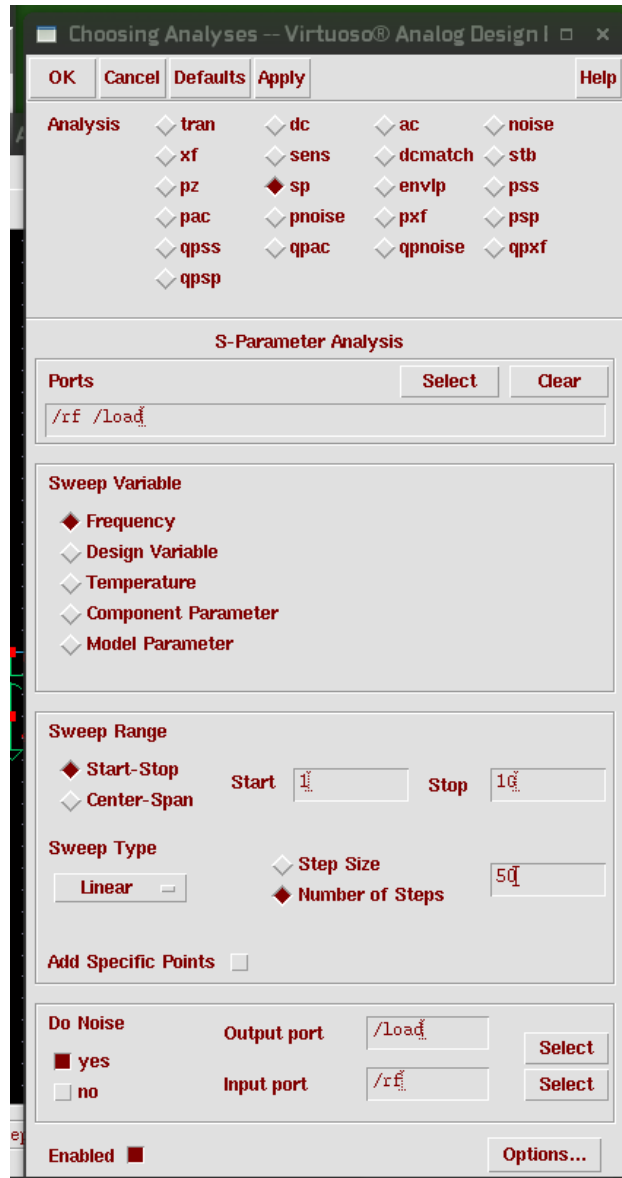

Figure 2.2: SP analysis setup
6. in ADE setup **sp** analysis. In sp analysis window (Refer Fig. 2.2), in ports field, click **select** button. Then schematic opens, click on port rf (input port) and then on port load (output port). Ports “**rf load**” should get listed in sp analysis window.